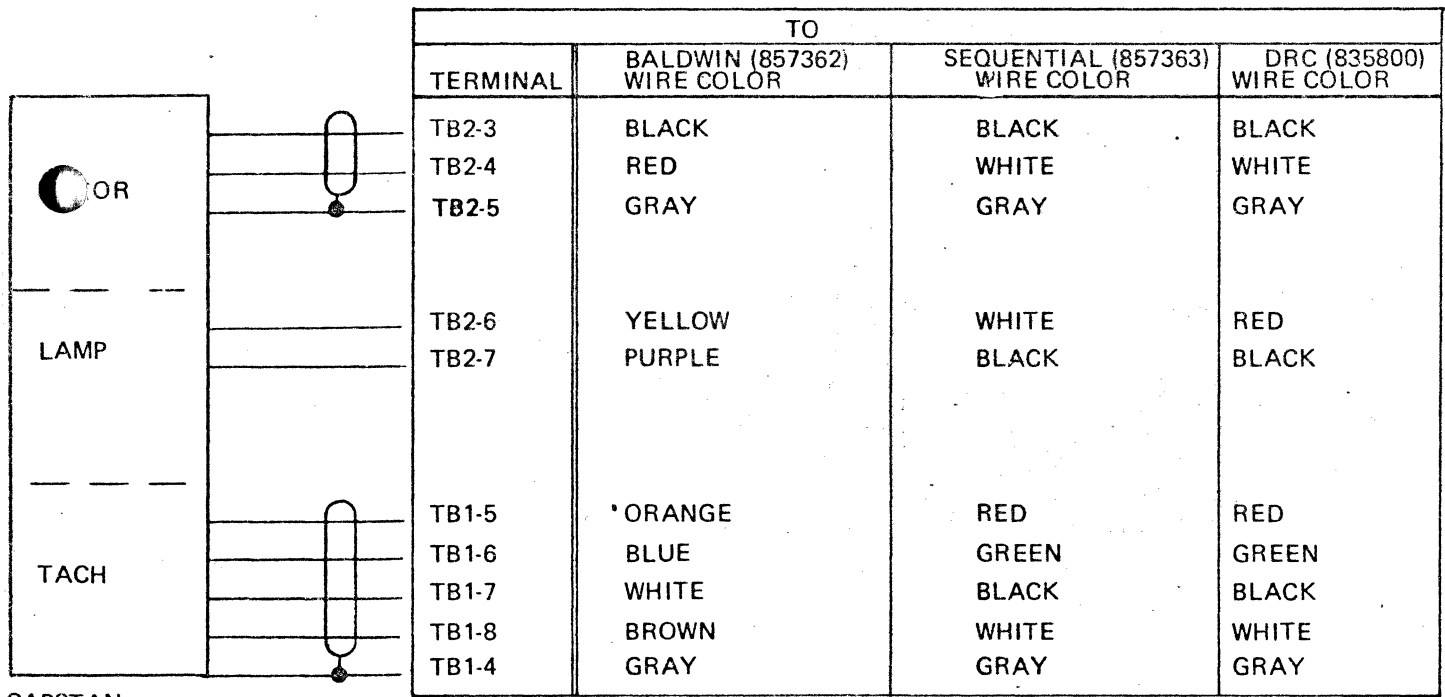

Figure 8. Capstan Motor Wiring Variations
- Step 7.* Connect the lead harness to the terminals noted in Step 2. Refer to figure 8 various motor wiring.